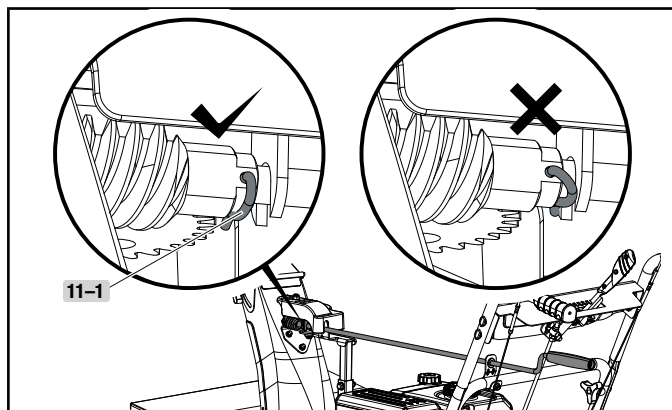

Figure 11B
- Align the lever and the gear, and then connect the R-clip (11-1). (Fig. 11B).
Ensure the R pin is positioned as shown in Fig. 11B.